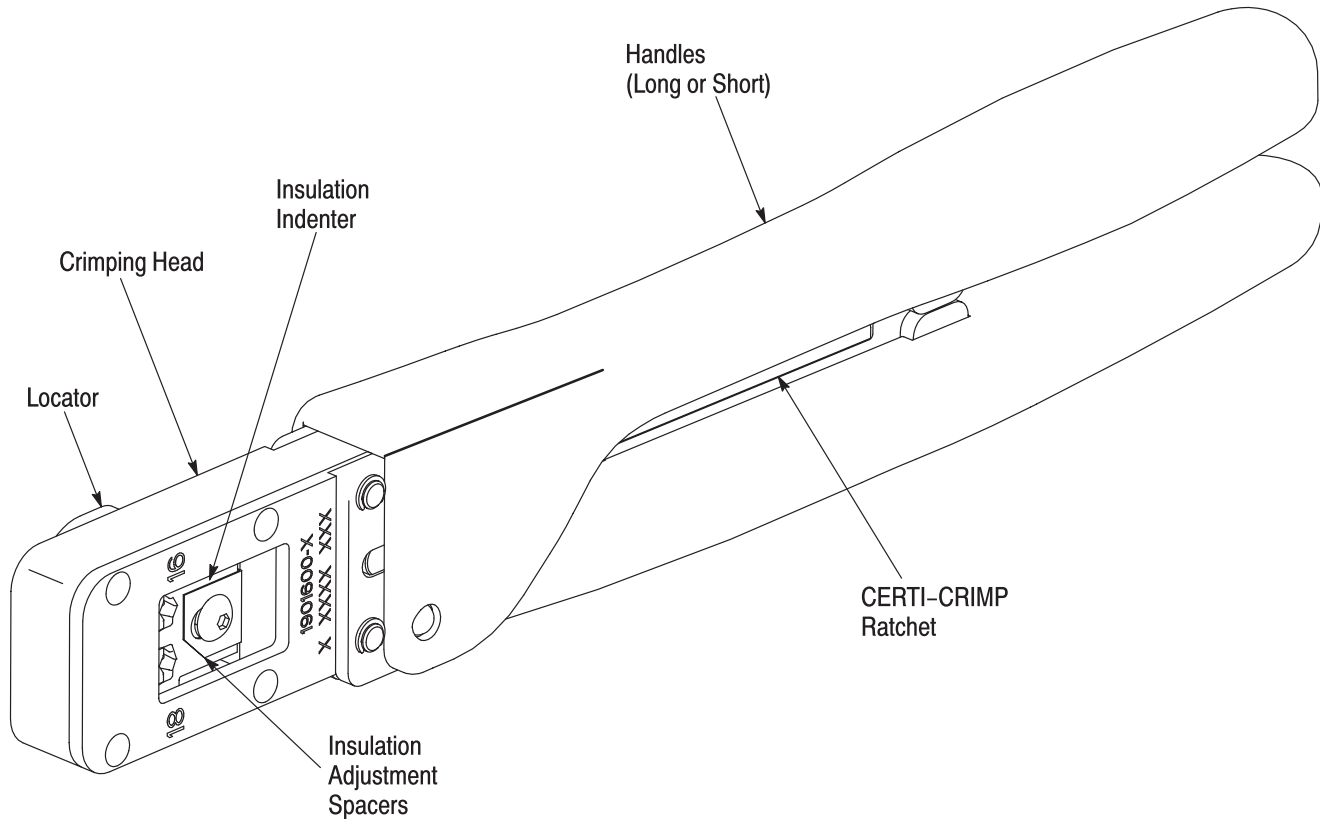

Figure 1
(indenters), a locator, insulation adjustment spacers, and a CERTI-CRIMP ratchet. See Figure 1.
2. Turn both insulation crimp adjustment spacers so they fit into the notch of the side of the die. See Figure 1. This is the number 3 or loose position.
insulation. If the wire pulls out, remove the screw holding the insulation adjustment spacers. Turn one of the spacers 90° so that it fits underneath the insulation indenter. Replace and tighten the screw. See Figure 1.